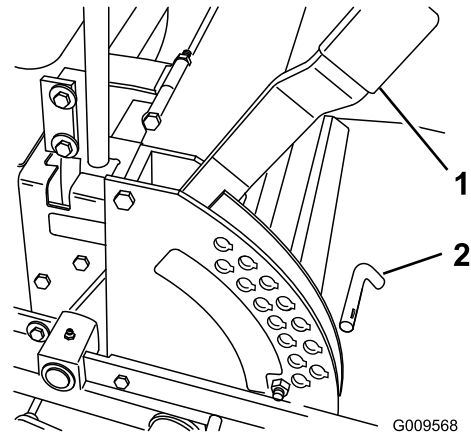

Figure 28
1. Raise the height-of-cut lever to the TRANSPORT position (also the 127 mm (5 inches) cutting-height position) (Figure 28).
2. To adjust, remove the pin from the height-of-cut bracket (Figure 28).
3. Select a hole in the height-of-cut bracket corresponding to the height of cut desired, and insert the pin (Figure 28).